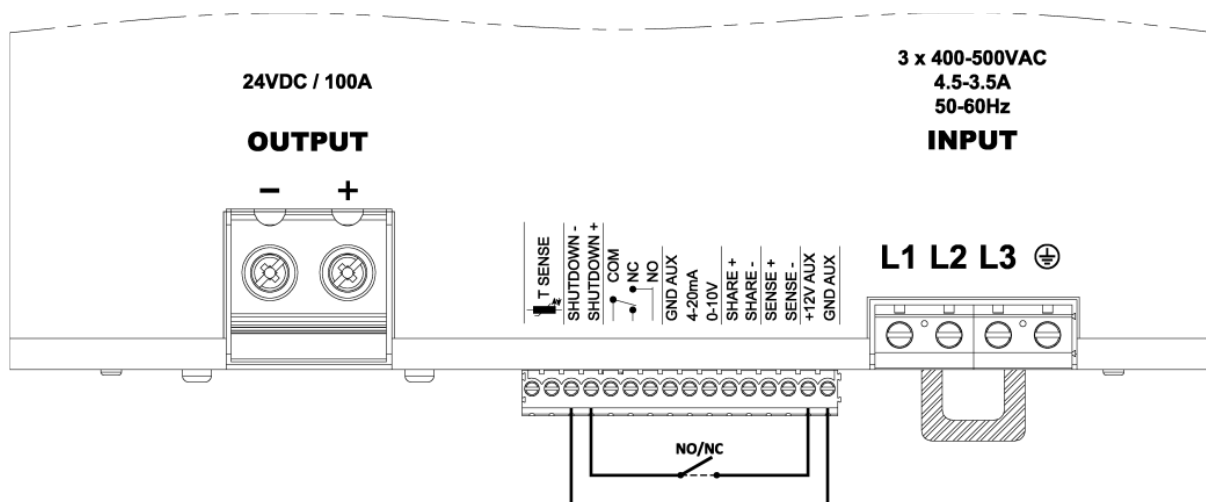

Figure 15: Remote shutdown input connection by using AUX power supply
2. **External switch or relay contact:** by connecting an external switch or relay contact as indicated in Figure 15 the CPSB3-2400 output can be switched ON or OFF by only acting on the switch or relay contact.